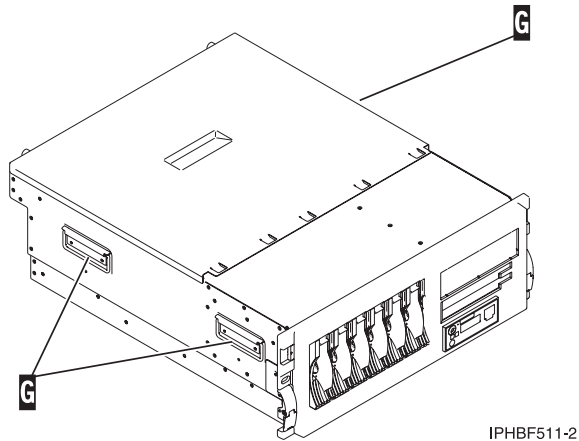

Figure 111. Attaching the handles.
- b. Position the handle as shown in Figure 111 on page 111, **G**.